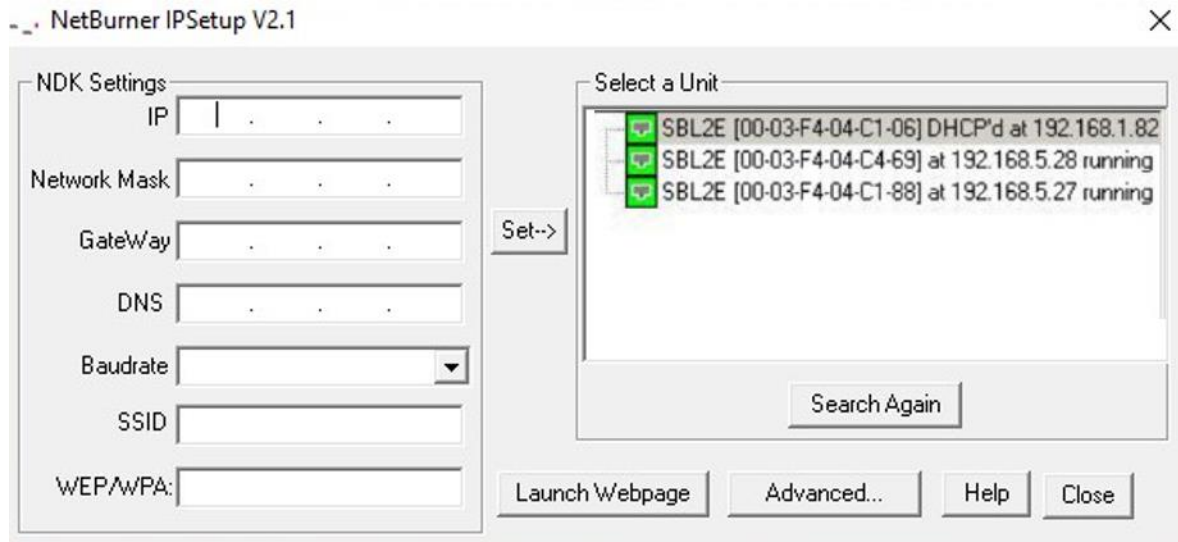

Figure 11 - IPSetup Application
5. Click on the IPSetup Application. The following screen in Figure 11 will appear: